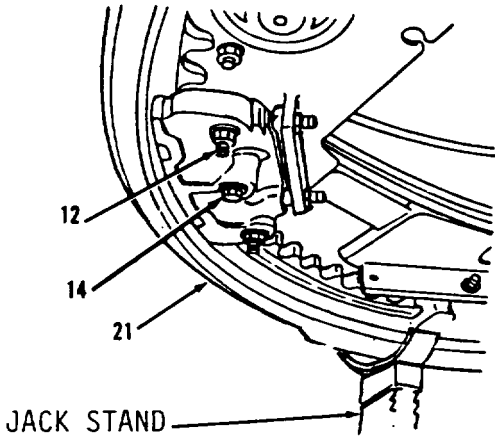
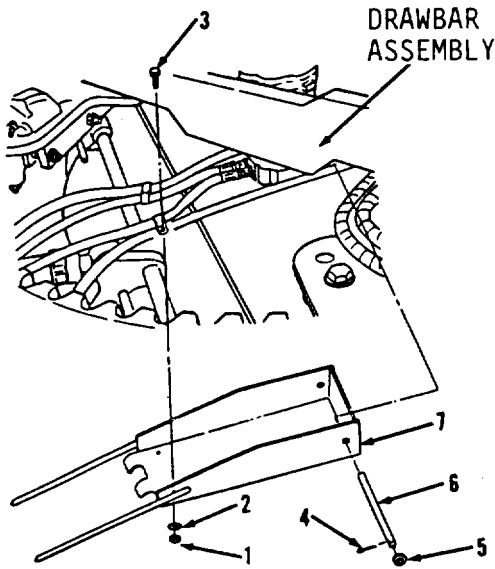

Figure 12-24.
Figure 12-23.
- 14. Tighten four bolts (14) and eight bolts (12, Figure 12-24) to 310 to 340 ft-lb torque. Recheck clearances and adjustments.
- 15. Remove jack stands from under circle (21).
- 16. Install guide (7), pin (6), two washers (5) and cotter pins (4, Figure 12-23).
- 17. Install two bolts (3), washers (2) and nuts (1).